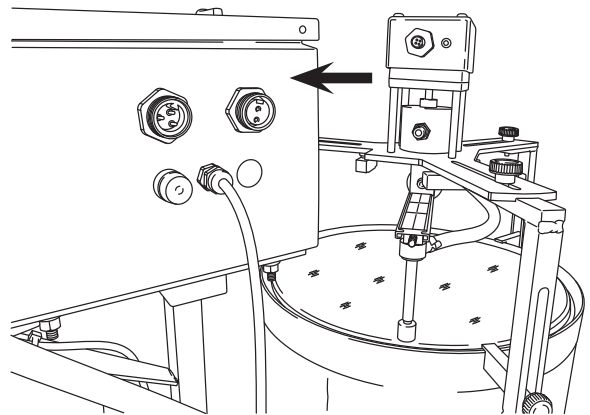

Figure 13
11. Position the fixture on top of the DPF with connecting receptacles pointing toward the control box. (Figure 13)